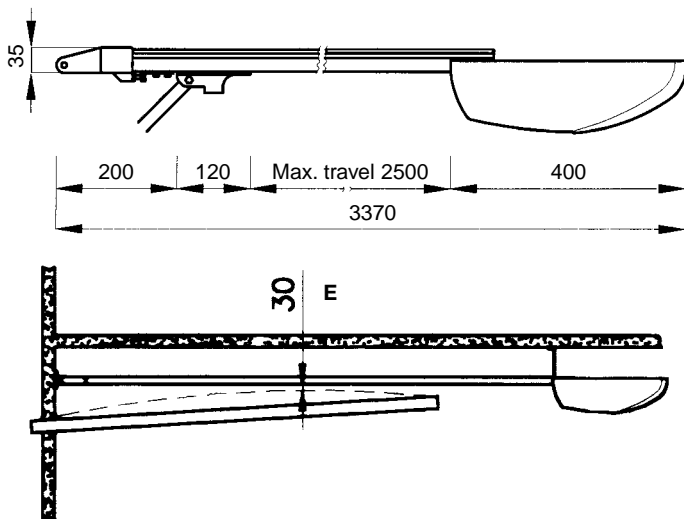

Fig. 4
- Make sure that the minimum and maximum clearances specified in fig. 4 are observed.
- If the door to be automated is an overhead type, make sure that distance [E] in Figure 4, i.e. the minimum distance between the upper side of the guide and the maximum point reached by the upper edge of the door, is no shorter than 30 mm, otherwise GDS cannot be installed.